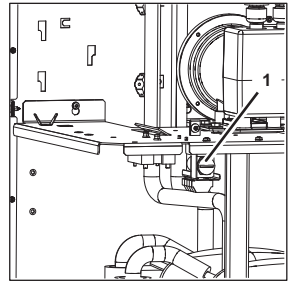

Figure 142
1. Turn and remove the fuse holder (Figure 142/1).
4. Attach the fuse holder (Figure 142/1) within the unit.